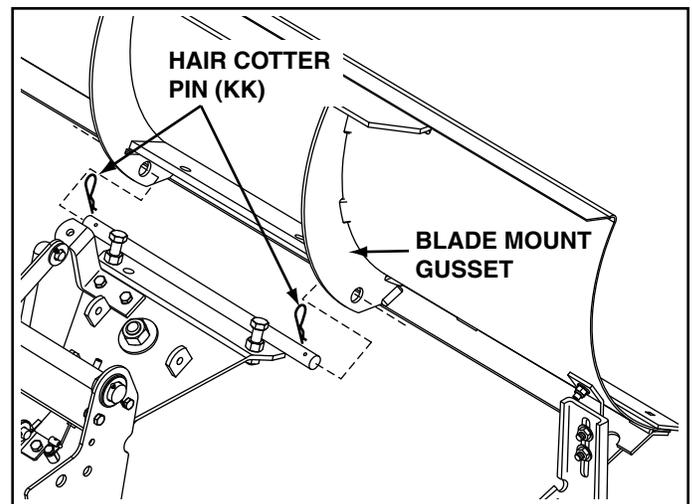

FIGURE 19
STEP 18: (SEE FIGURE 19)
- Align the channel pivot plate assembly behind the blade and guide the ends of the mounting rod, one end at a time, into the holes at the bottom of the blade mount gussets. Secure the mounting rod with two hair cotter pins (KK).